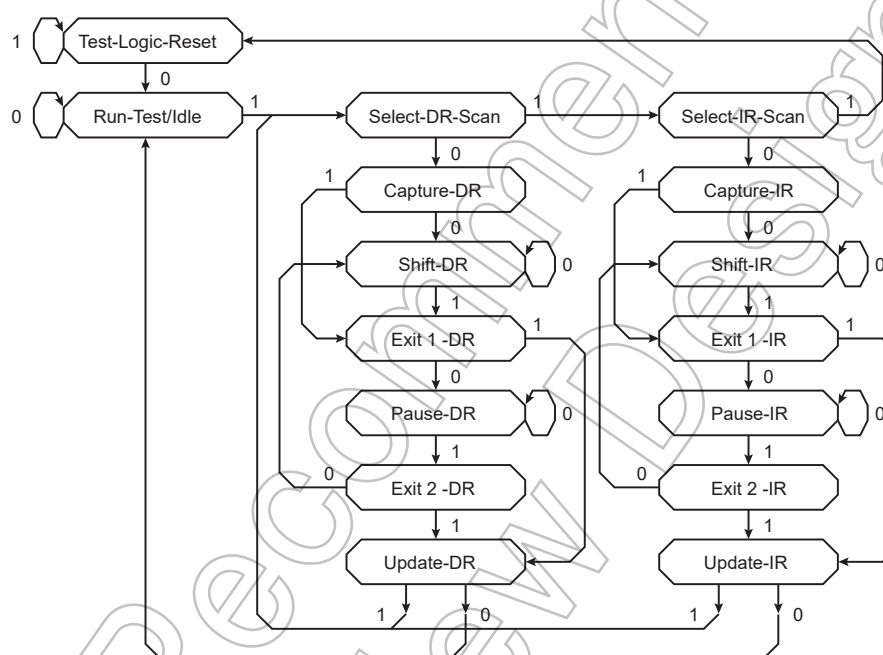

Figure 24-6 TAP Controller State Transition Diagram
The state transition diagram of the TAP controller is shown in Figure 24-6. Each arrow between states is labeled with a 1 or 0, indicating the logic value of TMS that must be set up before the rising edge of TCK to cause the transition.
The following paragraphs describe each of the controller states. The left column in Figure 24-6 is the data column, and the right column is the instruction column. The data column and instruction column reference the data register (DR) and the instruction register (IR), respectively.